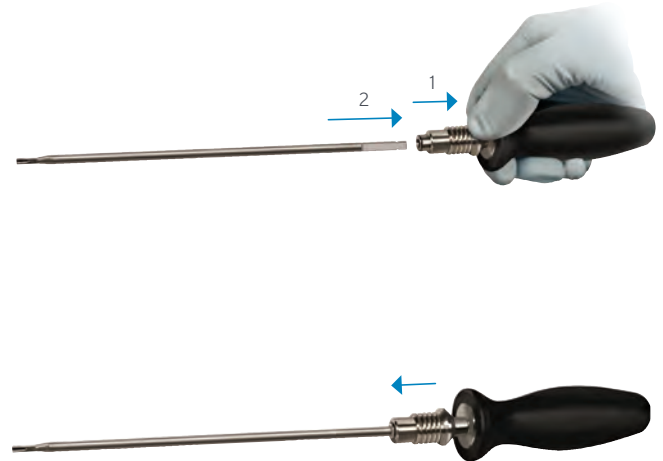

Figure 22
- Attach the set screw driver shaft to the 30in-lb (3.4Nm) torque limiting handle (black) (**Figure 22**).